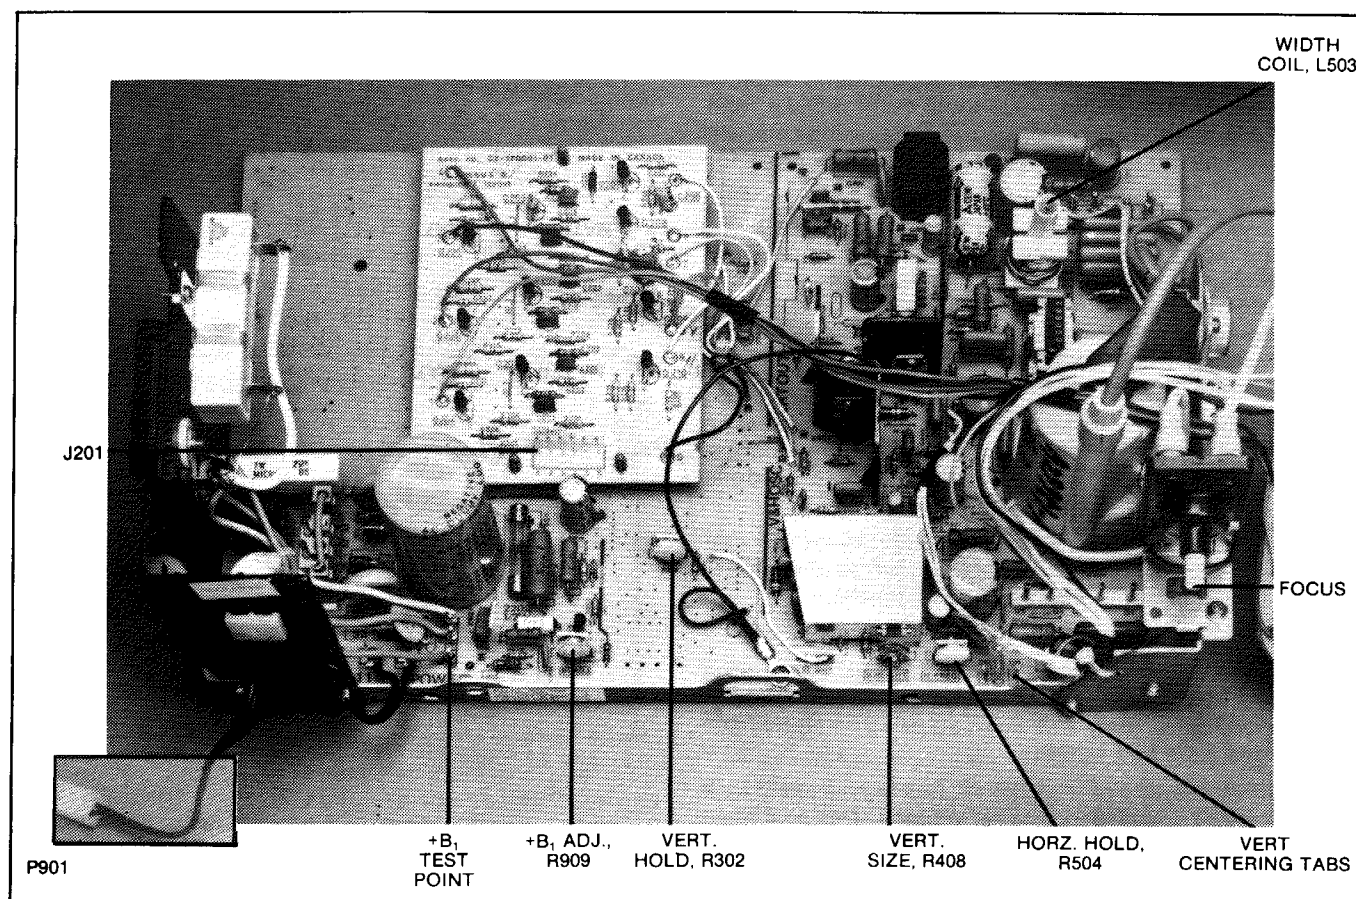

Figure 1
- d) Adjust R909 for 120V. (See fig. 1)